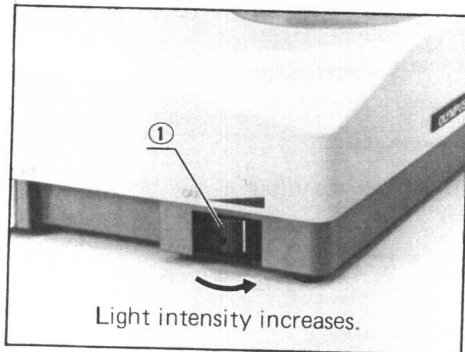

Fig. 13
- 1) Rotate the light intensity control knob ① in the direction of arrow to switch bulb "on". (Fig. 13)